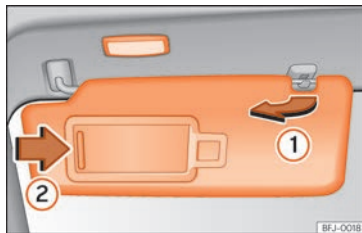

Fig. 102 Sun visor
- The sun visor can be pulled out of its mounting and turned towards the door » **Fig. 102 ①**.